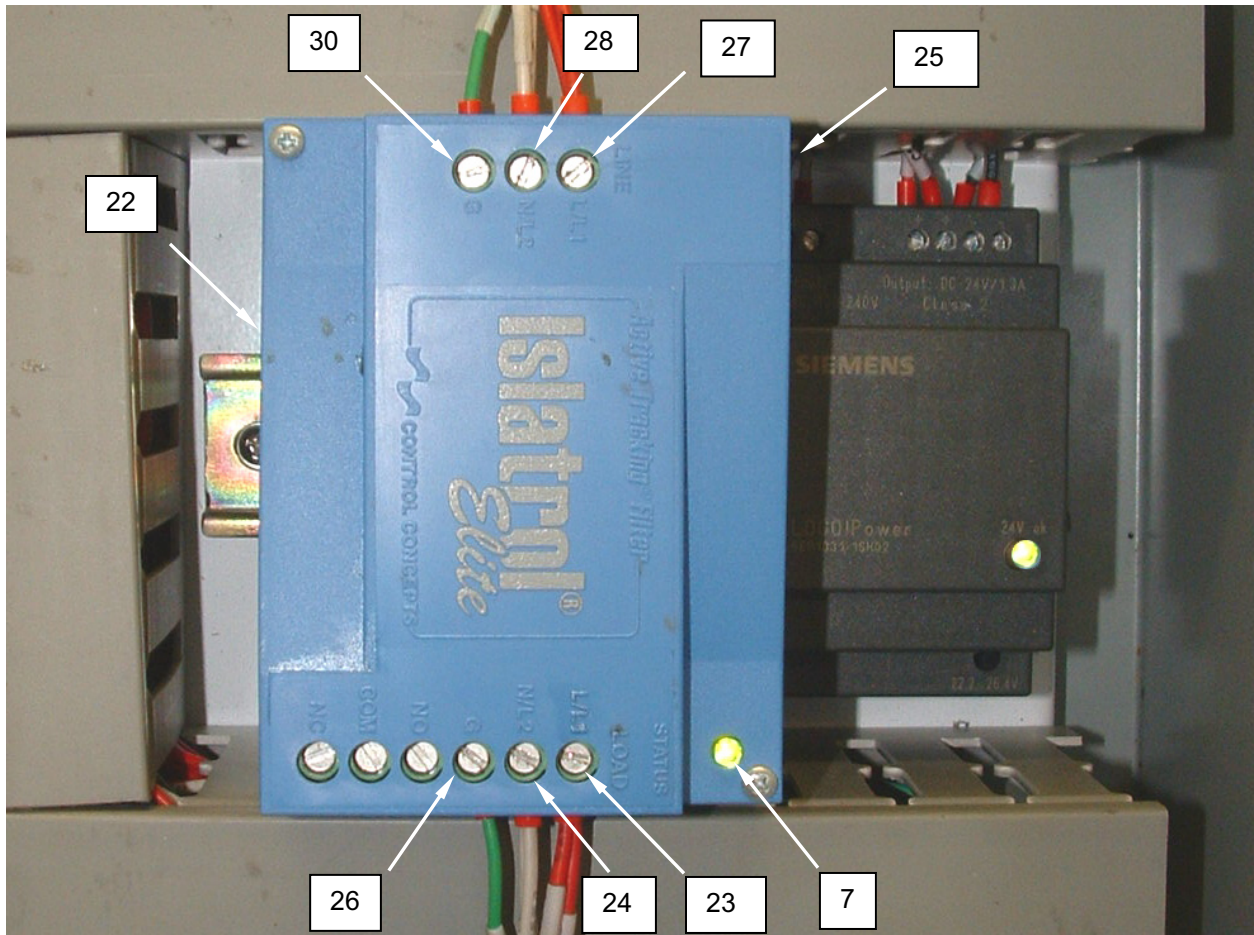

Figure 16. Test Surge Arrestor.
3. Ensure the indicator LED (**Figure 16, Item 7**) is lit.
4. Use a voltmeter to test for 120 VAC between L1 (**Figure 16, Item 23**) and L2 (**Figure 16, Item 24**) on the LOAD side of the surge arrestor (**Figure 16, Item 25**).
5. Use a voltmeter to test for 120 VAC between L1 (**Figure 16, Item 23**) and G (**Figure 16, Item 26**) on the LOAD side of the surge arrestor (**Figure 16, Item 25**).
6. Use a voltmeter to test for 120 VAC between L1 (**Figure 16, Item 27**) and L2 (**Figure 16, Item 28**) on the LINE side of the surge arrestor (**Figure 16, Item 4**).
7. Use a voltmeter to test for 120 VAC between L1 (**Figure 16, Item 27**) and G (**Figure 16, Item 30**) on the LINE side of the surge arrestor (**Figure 16, Item 29**).
8. Replace a surge arrestor (**Figure 16, Item 22**) which has the correct input voltage and incorrect output voltage.